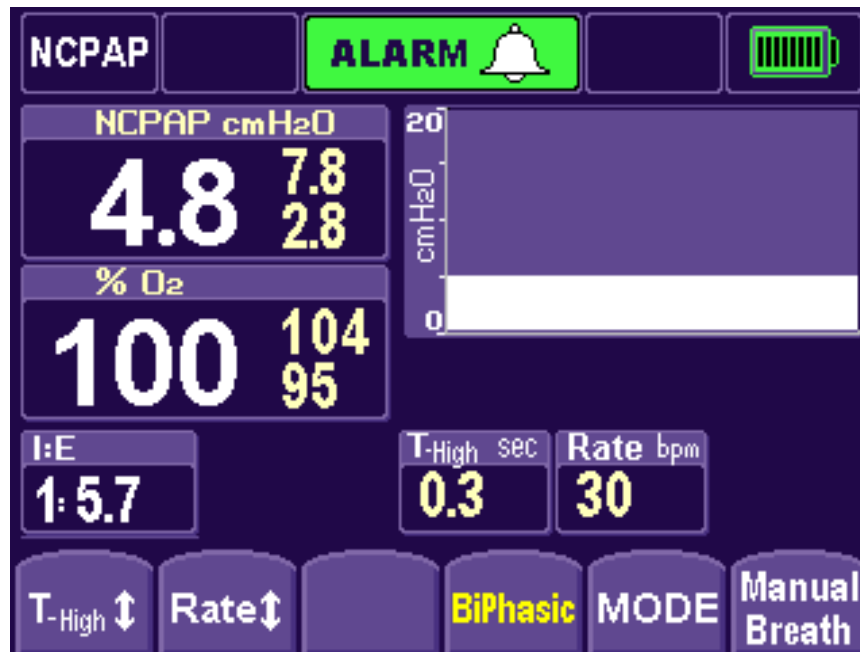

Figure A-4
9. Accept the default BiPhasic settings by selecting the BiPhasic soft key again (Figure A-4).